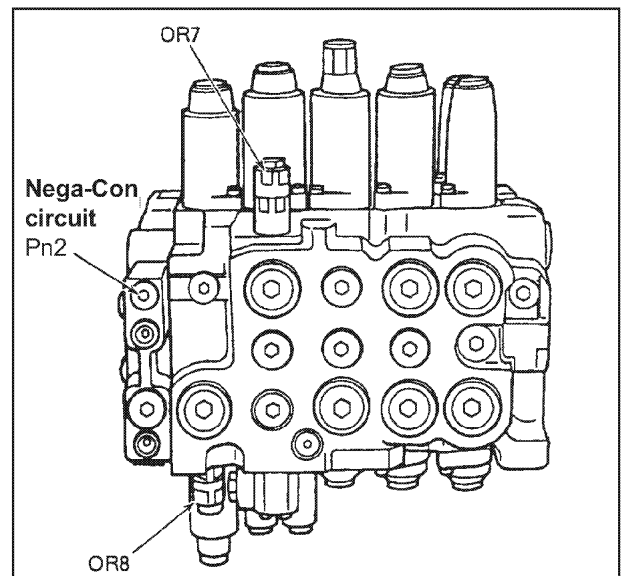

Figure 15.28 *
3. Locate OR7 on Main Control Valve, loosen locknut and adjust OR7 to test bench pressure. See Figure 15.28.
3. Locate OR8 on Main Control Valve, loosen locknut and adjust OR8 to test bench pressure. See Figure 15.28.